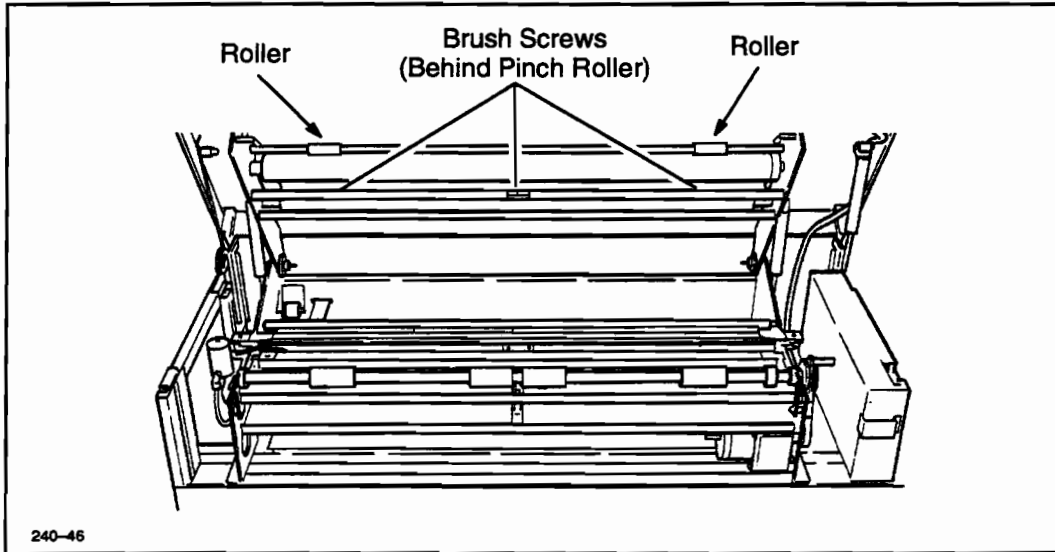

Figure 6-68. Brush Removal
4. Using a #2 Phillips screwdriver, remove the three brush-plate mounting screws. See Figure 6-68.